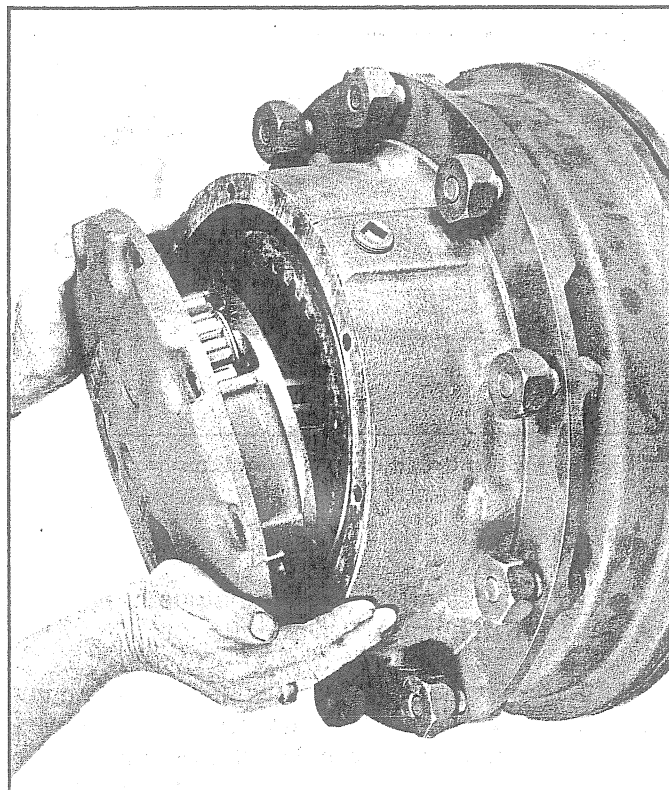

Fig. 3 - Removing or Installing the Planetary
3. Remove planetary assembly as shown in Fig. 3. For service procedures, refer to "Servicing Planetary Assembly" under the heading "Servicing Rear Drive Steer Axle", in Part 5.
9. Position planetary assembly on axle so that planetary gears engage ring gear and sun gear as shown in Fig. 3. Secure with retaining bolts and tighten to 50-55 ft.-lbs. torque.